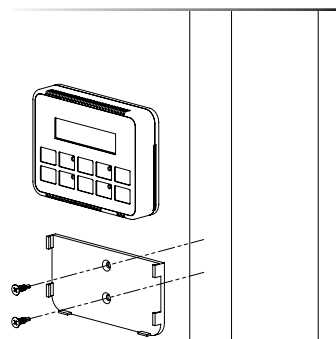

Figure 10: Controller on wall.
3. Wall mounted (figure 10). You may mount the controller on the wall next to the unit using two drywall screws. It is best to embed the screws into a stud. Use a stud finder to locate studs in the wall.